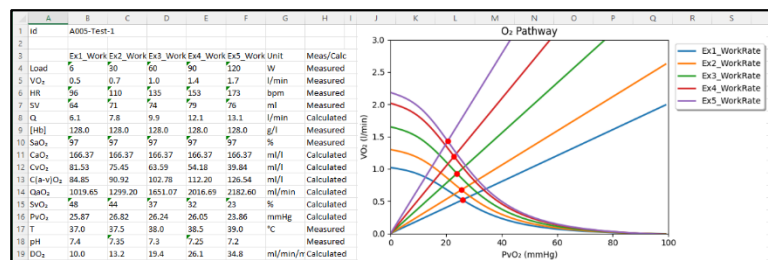

Figure 49
8. An excel file is created (figure 49).